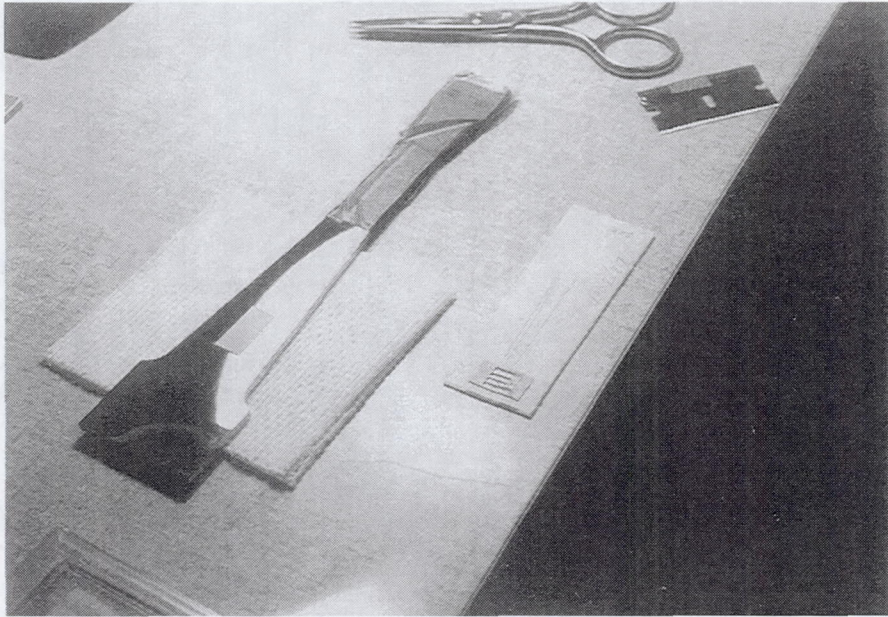

FIGURE 3. Thin insulating coat of alumina, 4% zirconia is applied to gage bond area.
- Figure 3. Thin insulating coat of alumina, 4% Zirconia is applied to gage bond area.